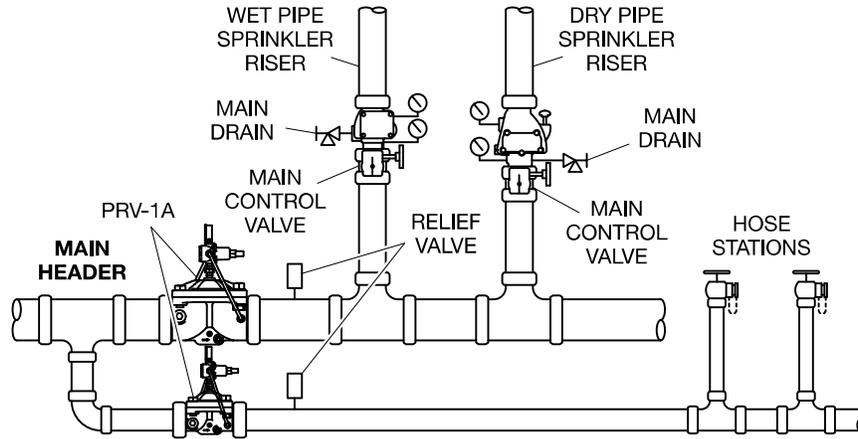

FIGURE 1
- Within the main header, as shown in Figure 1, supplying wet pipe, dry pipe, deluge, or preaction system risers, and/or a standpipe system supplying hose connections